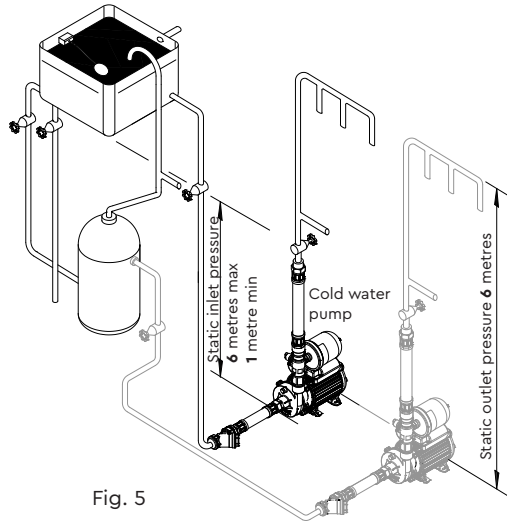

Fig. 5
- 2.16 **Static inlet pressure:** Before deciding where to position the unit, check to ensure the static inlet and outlet heads of water above the pump (Fig. 5), does not exceed the maximum permitted limits.